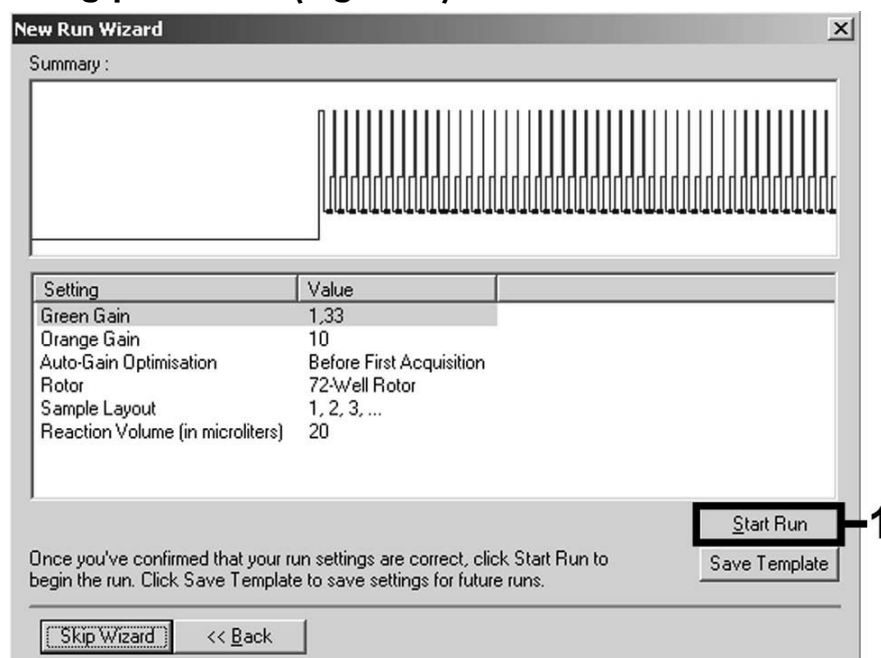

Figure 9. Starting the run. Note that, on the Rotor-Gene 3000, the software will define the fluorescence dyes as “FAM/Sybr” and “ROX”.
10. The gain values determined by the channel calibration are saved automatically and are listed in the last menu window of the programming procedure (Figure 9). Click “Start Run”.